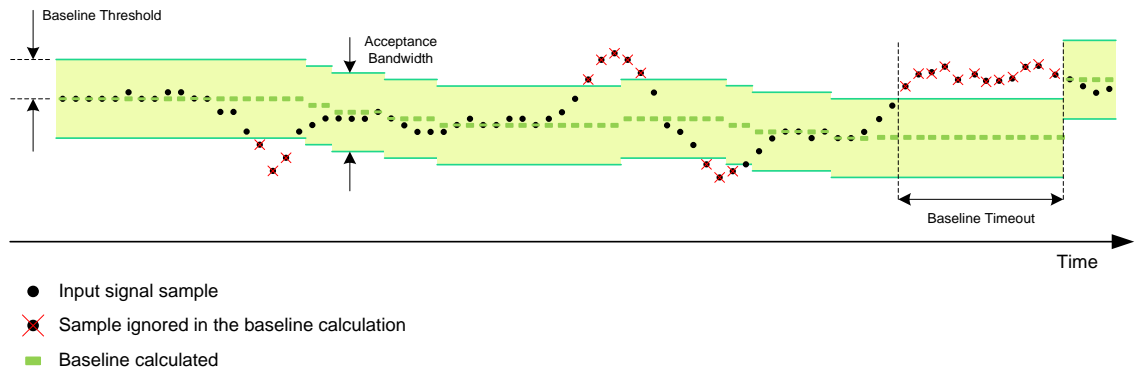

Fig. 2.2: Baseline calculation of the DPP-ZLEplus algorithm.
- The user can select an acceptance bandwidth for the baseline calculation. Samples with values outside the bandwidth are not included in the baseline calculation. See **BASELINE_THRESHOLD (bIThr)** register. It is also possible to set the maximum amount of time ("Baseline Timeout") the signal can stay outside the acceptance bandwidth before being considered again for the baseline calculation (**Fig. 2.2**). See the **BASELINE_TIMEOUT (bITo)** register.